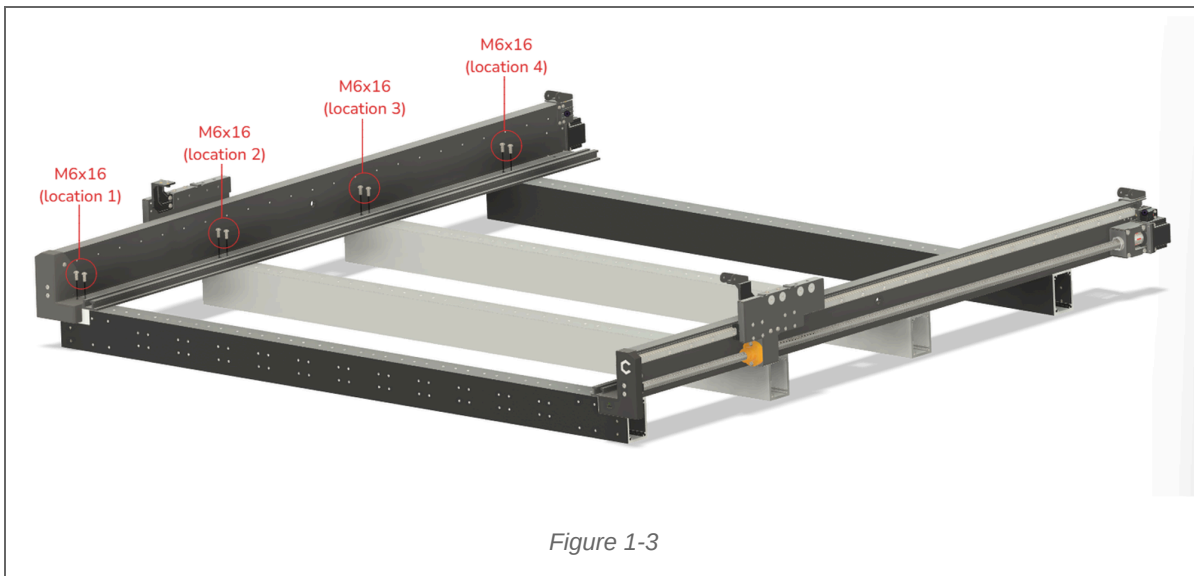

Figure 1-3
2. Set the **Y-Left Assembly** on the left side of the baseframe. See Fig. 1-3.
5. Use a 4mm hex key and eight (8) M6×16mm BHCS to attach the assembly. See Fig. 1-3. Snug the screws but don't fully tighten.
- Y-Left assembly is attached in four (4) locations.